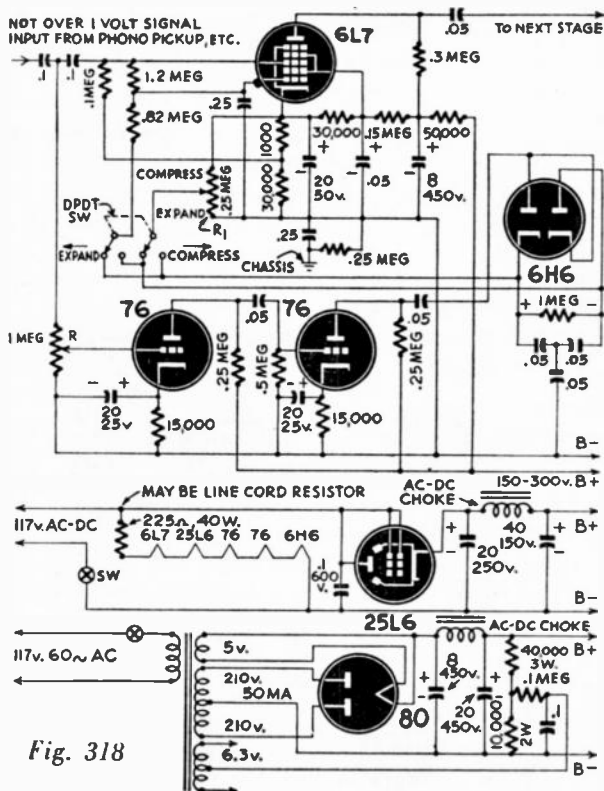

Fig. 318
A. A diagram of a volume expander using one 6L7 and two 76 tubes is given in Fig. 318. Either power-supply may be used, but the transformer type may give you better results.